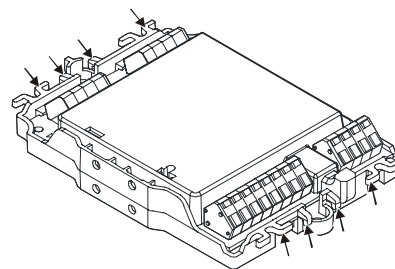

Fig. 9
4. Secure cables on module with cable ties (Fig. 9).